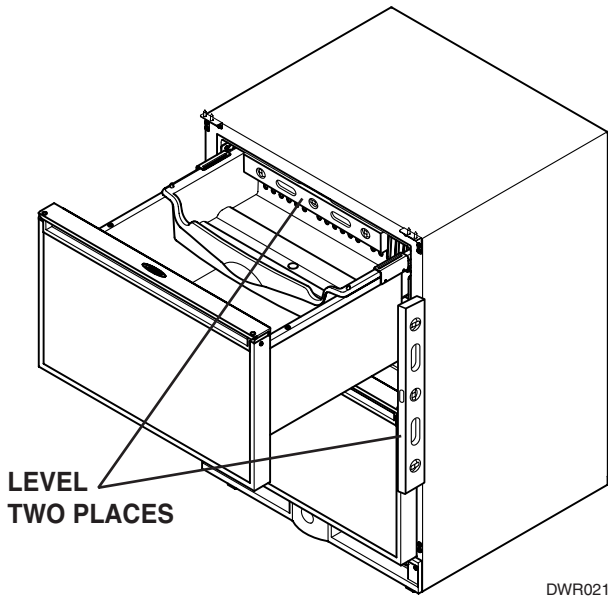

Figure 6
- Place the unit in position where it is to be installed. Re-check cabinet height and levelness (Figure 6) and adjust if necessary.